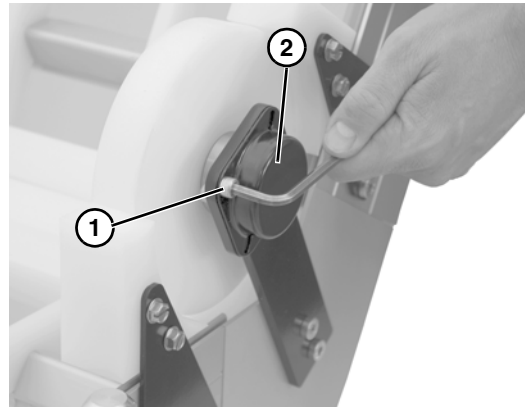

Figure 73
3. Remove two socket head screws (**Figure 73, item 1**) and remove shaft cover (**Figure 73, item 2**). Repeat on opposite side.